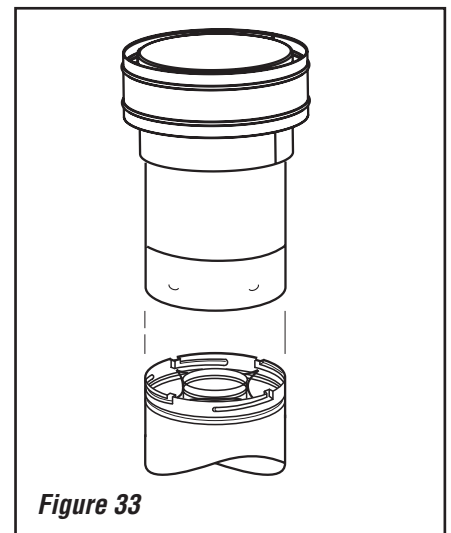

Figure 33
K. Install the vertical termination - The final step involves installation of the SV4.5CGV-1 Vertical Termination. Extend the vent sections to the height as shown in the "Vertical vent termination section" on **Page 8**. The SV4.5CGV-1 Vertical Termination (**Figure 33**) installs in the exact same fashion as any other **Secure Vent** section. Align the termination over the end of the previously installed section, adjusting the radial alignment until the four locking dimples of the termination are aligned with the inlets of the four incline channels of the last vent section. Push the termination down until it fully engages, then twist the termination clockwise running the dimples down and along the incline channels until they seat at the end of the channels.